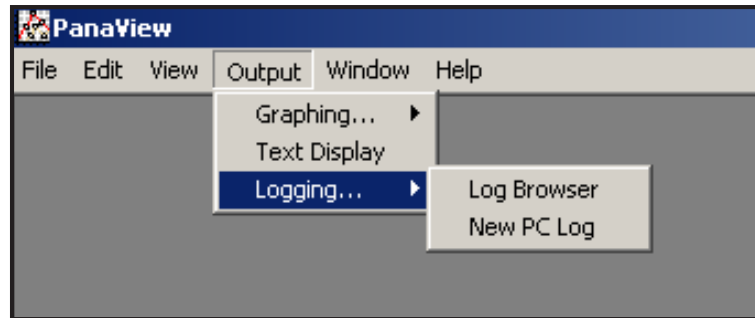
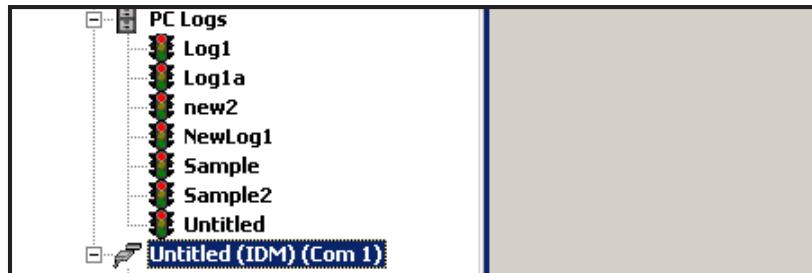
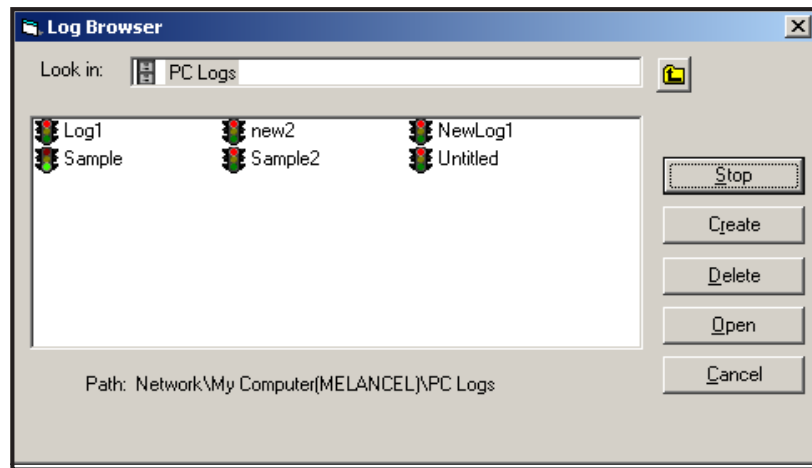

Figure 13: Selections in the Logging Option
Figure 22: The Expanded PC Logs Option
Figure 23: Selecting a Log File from the Log Browser
1. Open the *Output* menu (see Figure 13), and click on the *Logging* option.
- From the *New Meter Browser* in PanaView, expand the network tree and click on the *PC Logs* option. If you have created one or more logs, the tree will appear similar to Figure 22 below. Double-click on the log name to open the log, or
- Pull down the *Output* menu (see Figure 13 on page 61), and click on the *Log Browser* option. Advance to the *PC Logs* dialog box as described in previous sections. A screen similar to that shown in Figure 23 appears.
Notice that each of the log files in Figure 22 and Figure 23 has a traffic light icon next to its name. These icons indicate the current status of the log as follows: